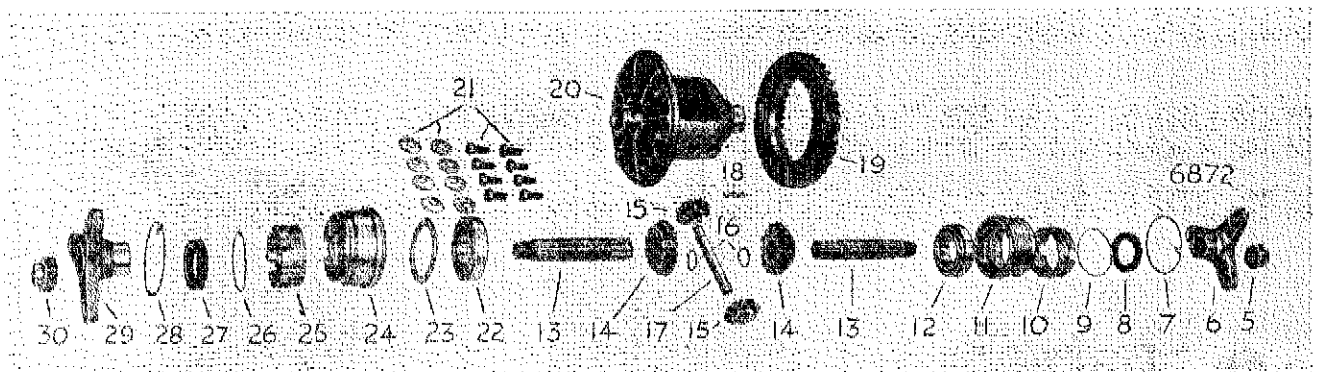

Fig. 35. Hypoid assembly
(See Fig. 35)
Slide the sleeve assemblies off the differential shafts (11/24, Fig. 35).
In all cases where the cross-pin (17, Fig. 35) has been removed from the differential casing, the cross-pin and the locking pin (18) must be replaced, using the cross-pin identified by a .30 in. dia. pip at one end, and a Spirol locating pin. These two items must be fitted as a pair and are contained in the differential wheel and pinion set Part No. 7050027.